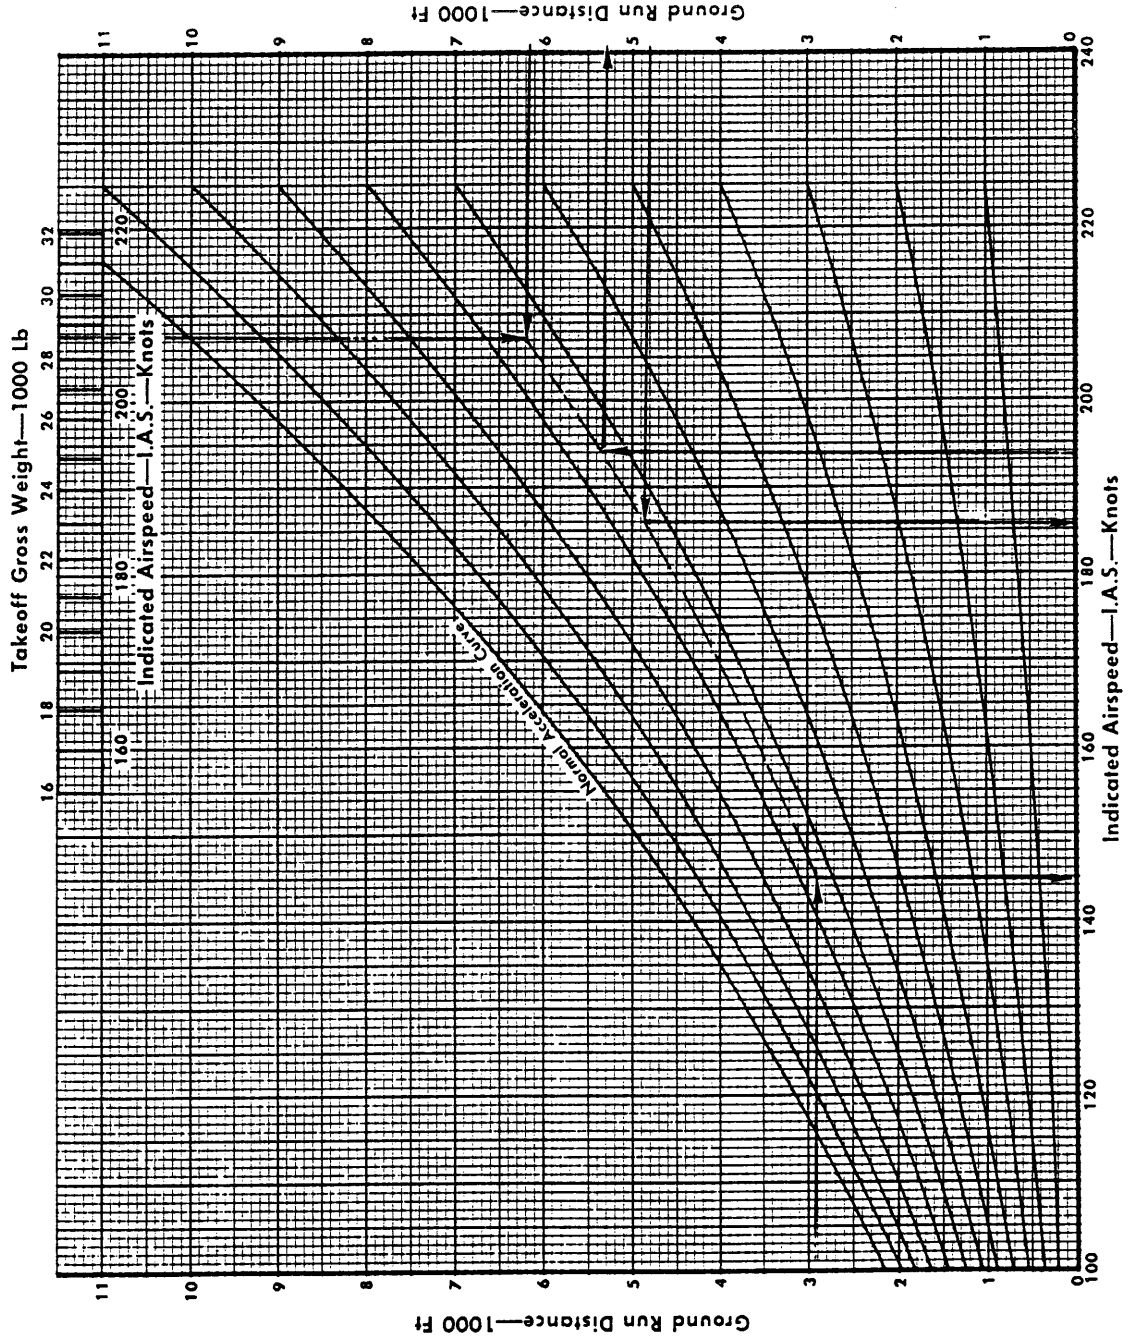

Figure A2-6
- f. Enter Figure A2-6 (Velocity During Takeoff Ground Run) at the Takeoff gross weight (23850 lb) and zero-wind, zero-slope takeoff ground run distance (4700 ft) to establish the normal acceleration guide line.
- g. Still using Figure A2-6, enter the ground run distance scale at the acceleration check distance (1875 ft). At the intersection with the normal acceleration guide line read the normal speed at the acceleration check distance 122 knots.
- f. Enter Figure A2-6 (Velocity During Takeoff Ground Run) at the takeoff gross weight 28593 lb and zero-wind, zero-slope takeoff ground run distance (6200 ft) to establish the normal acceleration guide line.
- g. Still using Figure A2-6, enter (from the bottom) at the refusal speed (193 knots). At the intersection with the normal acceleration guide line read the refusal distance on the ground run distance scale 5350 ft.
- i. Using Figure A2-6 (Velocity During Takeoff Ground Run), enter the ground run distance scale at the go, no-go distance (4875 ft). At the intersection with the normal acceleration guide line, read the normal speed at the go, no-go distance 185 knots.
- m. Enter Figure A2-6 (Velocity During Takeoff Ground Run) with the acceleration check distance (2875 ft). At the intersection with the normal acceleration guide line read the normal speed at the acceleration check marker (zero wind) 144 knots.